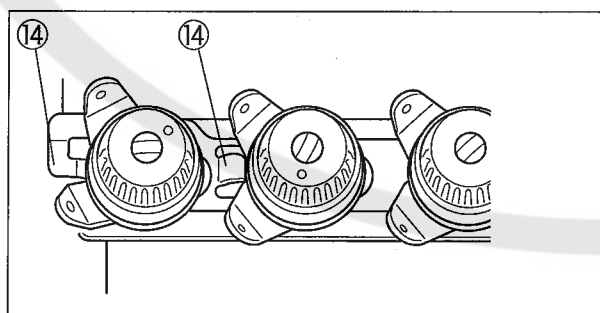

Fig. 4
6. Press the lifter lever ⑦ down, and check if the hook ⑭ on the thread tension release plate goes between the tension discs ⑮ and thread tension has been released. (Fig. 4, 5)